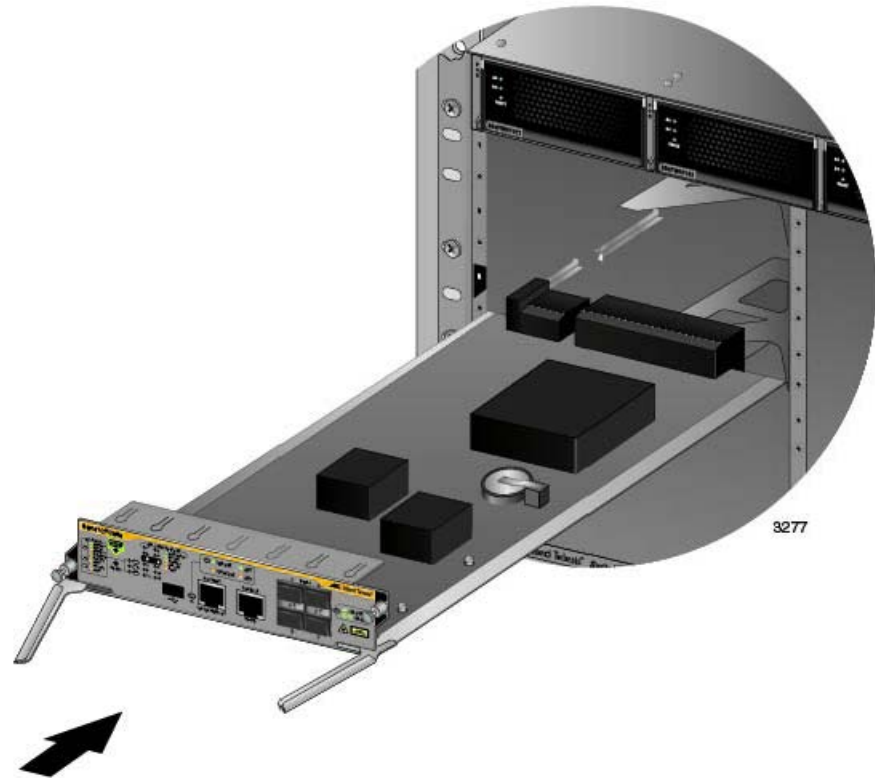

Figure 65. Aligning the AT-SBx81CFC960 Card in the Chassis Slot
6. Align the edges of the AT-SBx81CFC960 Controller Fabric Card with the internal chassis card guides in slot 5 or 6 of the AT-SBx8112 Chassis. Figure 65 on page 131 shows the AT-SBx81CFC960 Card aligned in slot 5.